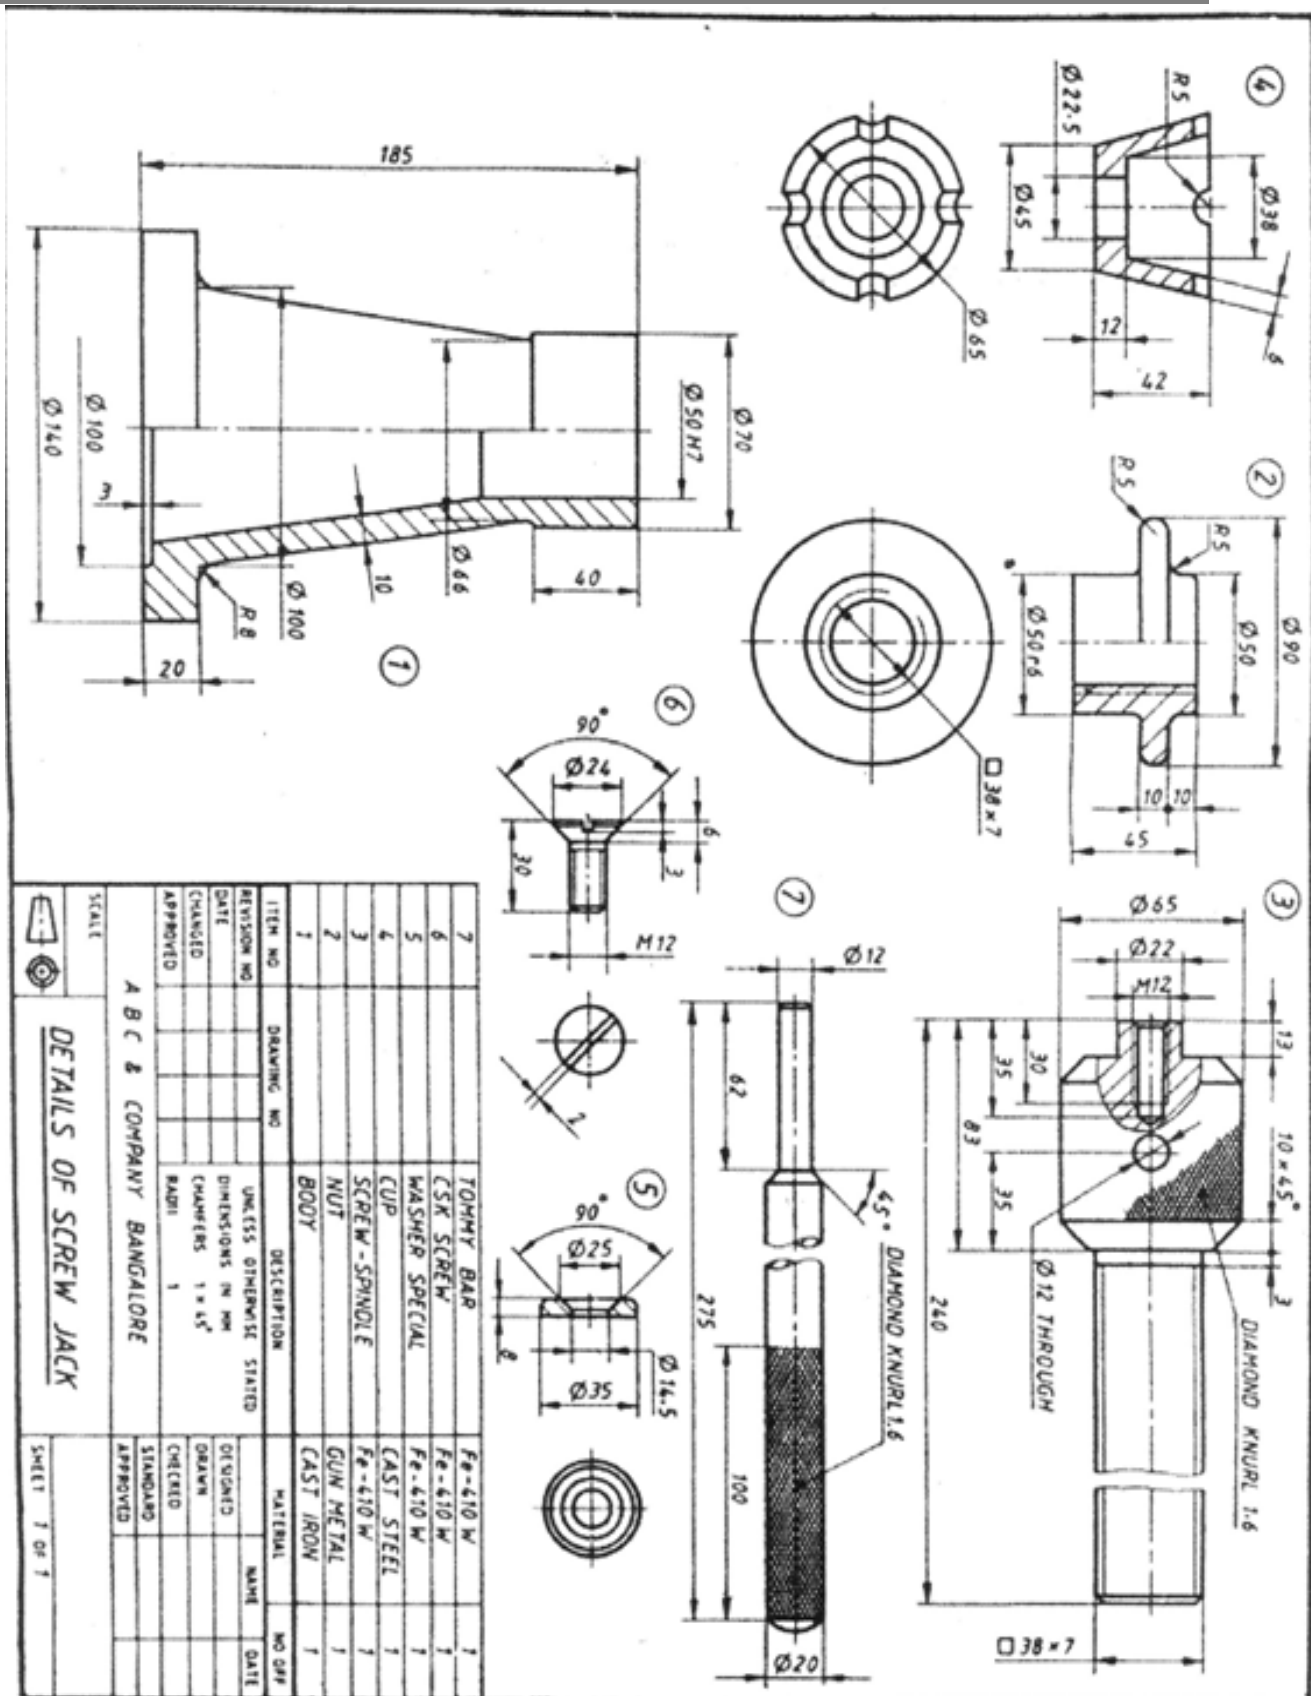

Figure 1 'SCREW JACK'
5. Figure 1 shows the details of 'SCREW JACK. Assemble the parts and draw the following views of the assembly.